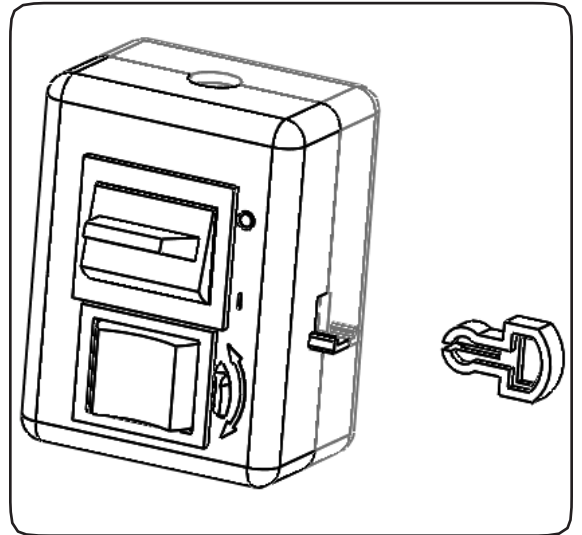

Figure 3-5
2. Insert the safety key into the switch, as shown in figure 3-5. Press the adjustable switch to adjust the chute to the desired direction. Operate the winch control switch to check if the winch works properly.